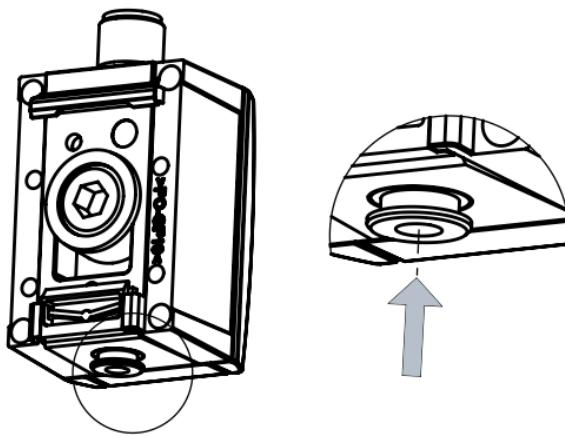

Figure 12: Plug connection for 4 mm pneumatic hose (push-in fitting, PIF)
5.5 Pressure connection via the plug connection for the pneumatic hose (push-in fitting, Figure 12)